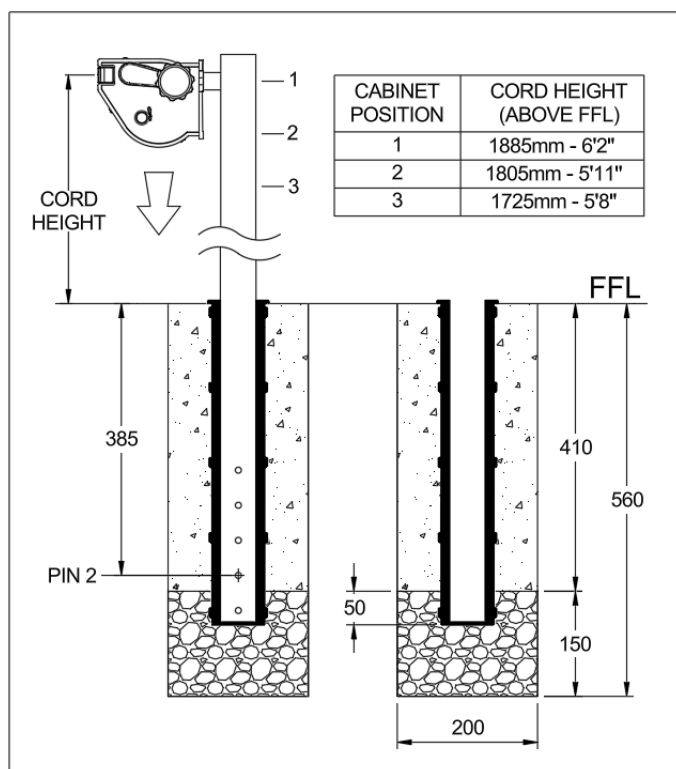

Fig. 1 Ground Socket Install (Removeable Post).
1. Dig a hole 200 x 200 x 560mm deep. (Fig 1).
2. Drill a hole and fit the Ø8 x 150mm pin to the second position of the Ground Socket as shown below. (Fig 1).
3. Add 100mm drainage aggregate and set the Ground Socket in the hole. (Fig 1).
4. Add an additional 50mm drainage aggregate up the sides of the Ground Socket and fill the remainder of the hole with concrete. (Fig 1).